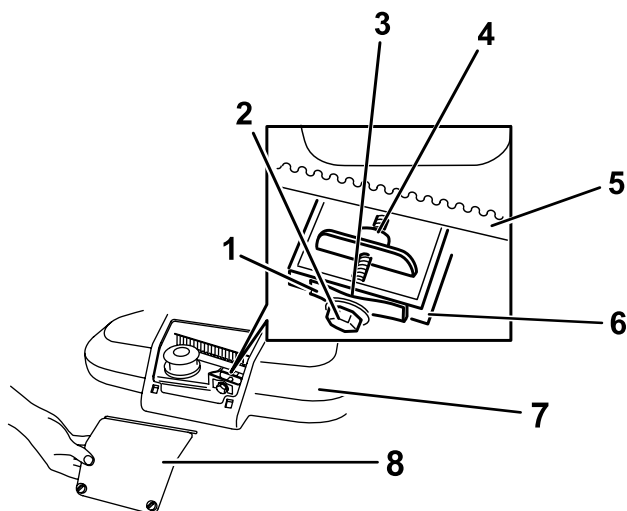

Figure 27
1. Loosen the 2 quarter-turn fasteners on the belt-cover-access panel and remove the panel (Figure 27).
Note: If there is a visible gap between the gauge and the spring, tighten the adjusting bolt and the nut until the feeler gauge barely slides freely in and out of the gap (Figure 27).